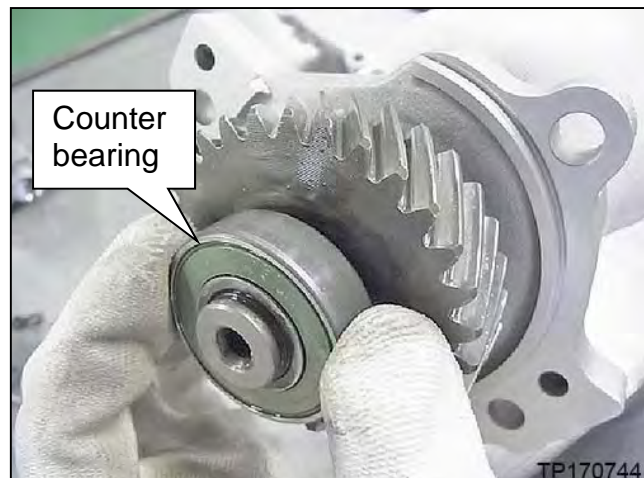

Figure 168
**NOTE:** Type "C" counter bearing shown in Figure 168. Type "B" is similar.